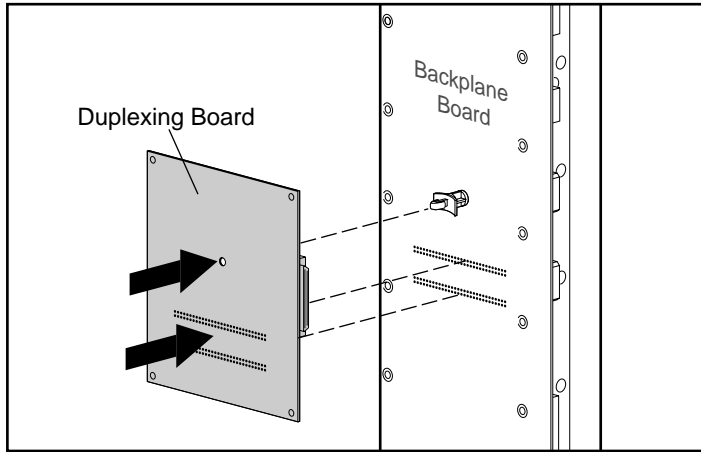
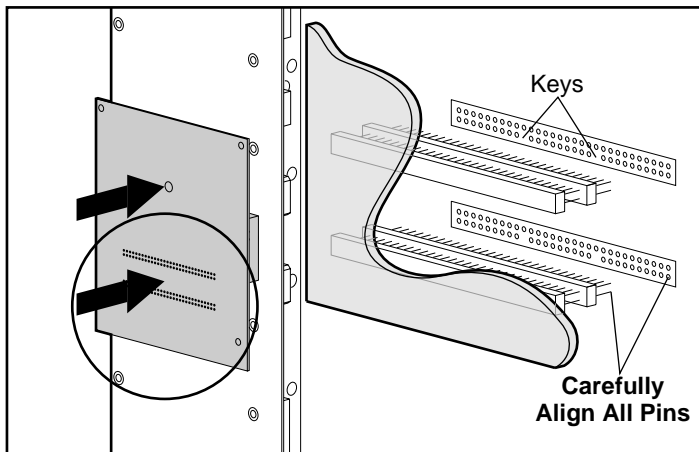

Figure 6-5. Installing the Duplexing Option Board
Figure 6-6. Aligning the Pins on the Duplexing Option Board
12. Orient the Duplexing board as shown in Figure 6-5. Install it onto the Backplane by carefully aligning the double rows of pins on the board with the mating sockets on the Backplane as in Figure 6-6. Be sure to observe the locations of the keying pins and align the plastic standoff with its mating hole in the Duplexing board. Gently but firmly press the board onto the Backplane as far as it will go. The standoff will snap into place in the Duplexing board.